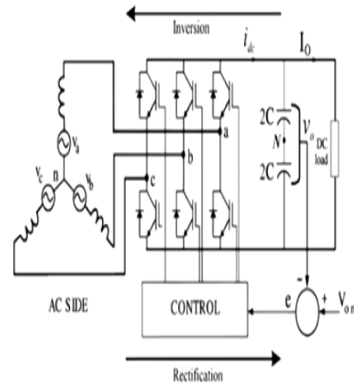

Fig.5 Operation principle of the VSC
- The basic operation principle of VSR consists on keeping the load dc-link voltage at a desired reference value, using a feedback control loop as shown in Fig. 5